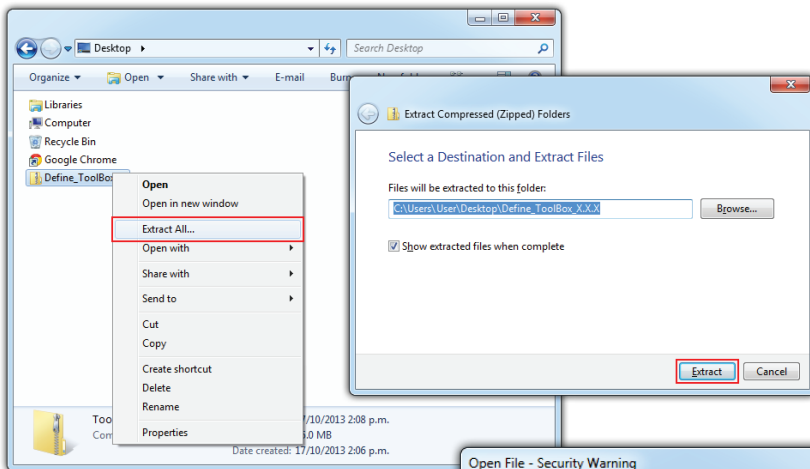

Fig 1
- B** Extract the install file from the zip folder (Fig 1). Right-click on the zip folder and choose 'Extract All', (or extract the file using another extraction utility of your choice).